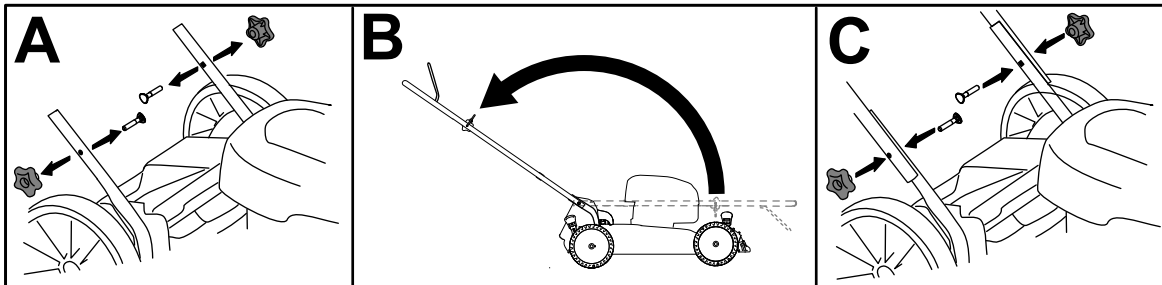

Figure 3
1. Remove the handle knobs and corresponding bolts from the machine housing (A of Figure 3).
2. Position the upper handle on the lower handles and then unfold the handle (B of Figure 3).
3. Install the handle knobs with the corresponding bolts and tighten them firmly by hand (C of Figure 3).